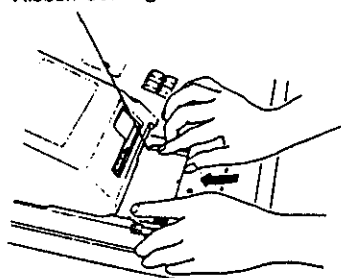

Fig. 3
3. Install a new Ribbon Cartridge in the reverse order to Step 2 above (Fig. 3).